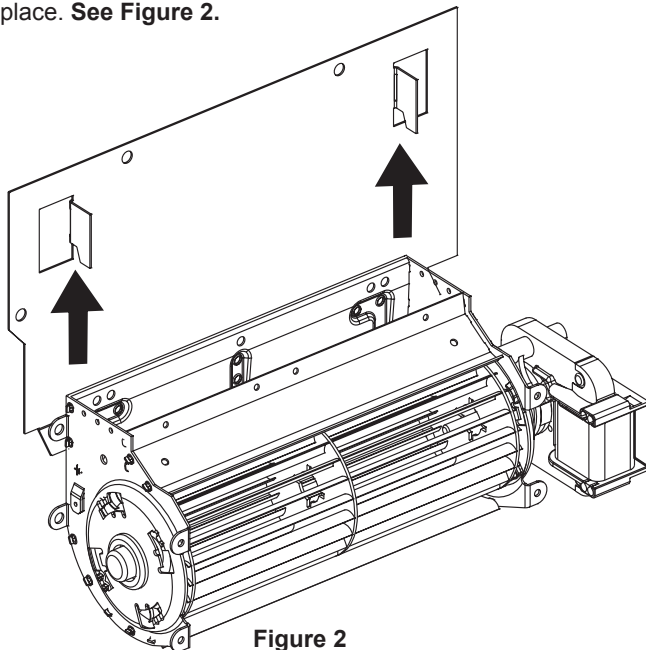

Figure 2
2. Install the blower onto the pre-bent brackets on the blower plate. Ensure the Velcro connects to secure the blower in place. See Figure 2.